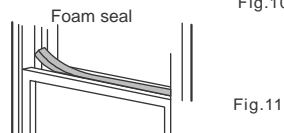

Fig. 11
5. Cut the foam seal to an appropriate length and seal the open gap between the top window sash and outer window sash. Shown as in Fig.11.